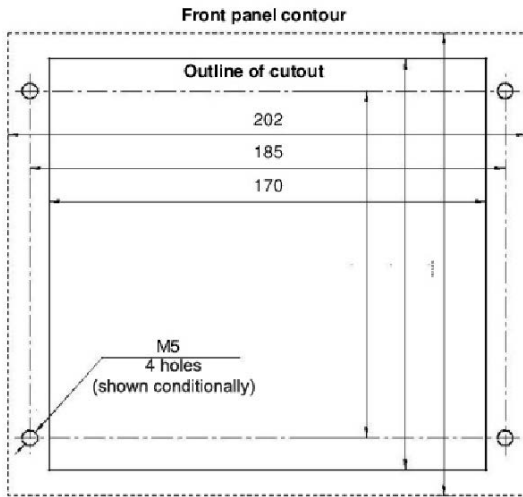

Fig. 1. Markup for installation of the outdoor panel.
2. Prepare a niche for installing the outdoor panel (see the markup in Figure 1).